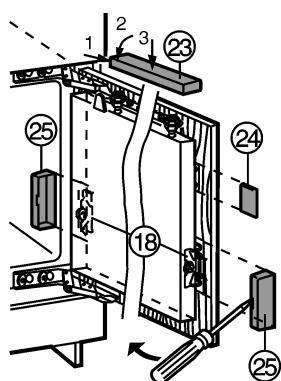

Fig. 28
- ▶ Attach top cover Fig. 28 (23) and snap into place.
- ▶ Attach side cover Fig. 28 (24), push it to the limit and then press until it audibly snaps into place.
- ▶ Attach covers Fig. 28 (25) sideways, then draw them forwards with a screwdriver so that they snap into place well.